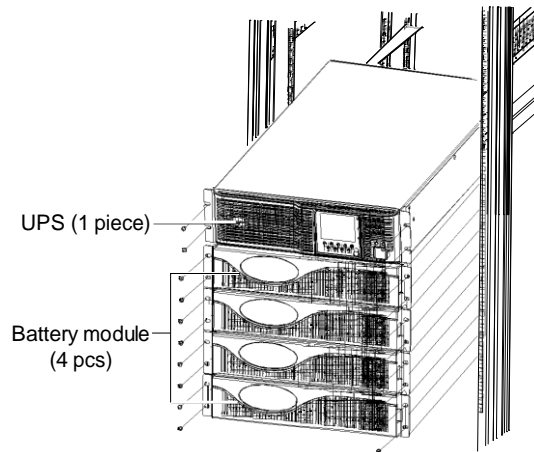

Figure 2-5 UPS installation diagram of battery modules included
- Install the battery module, start the installation from the bottom, and then place the UPS onto the top, as shown in Figure 2-5